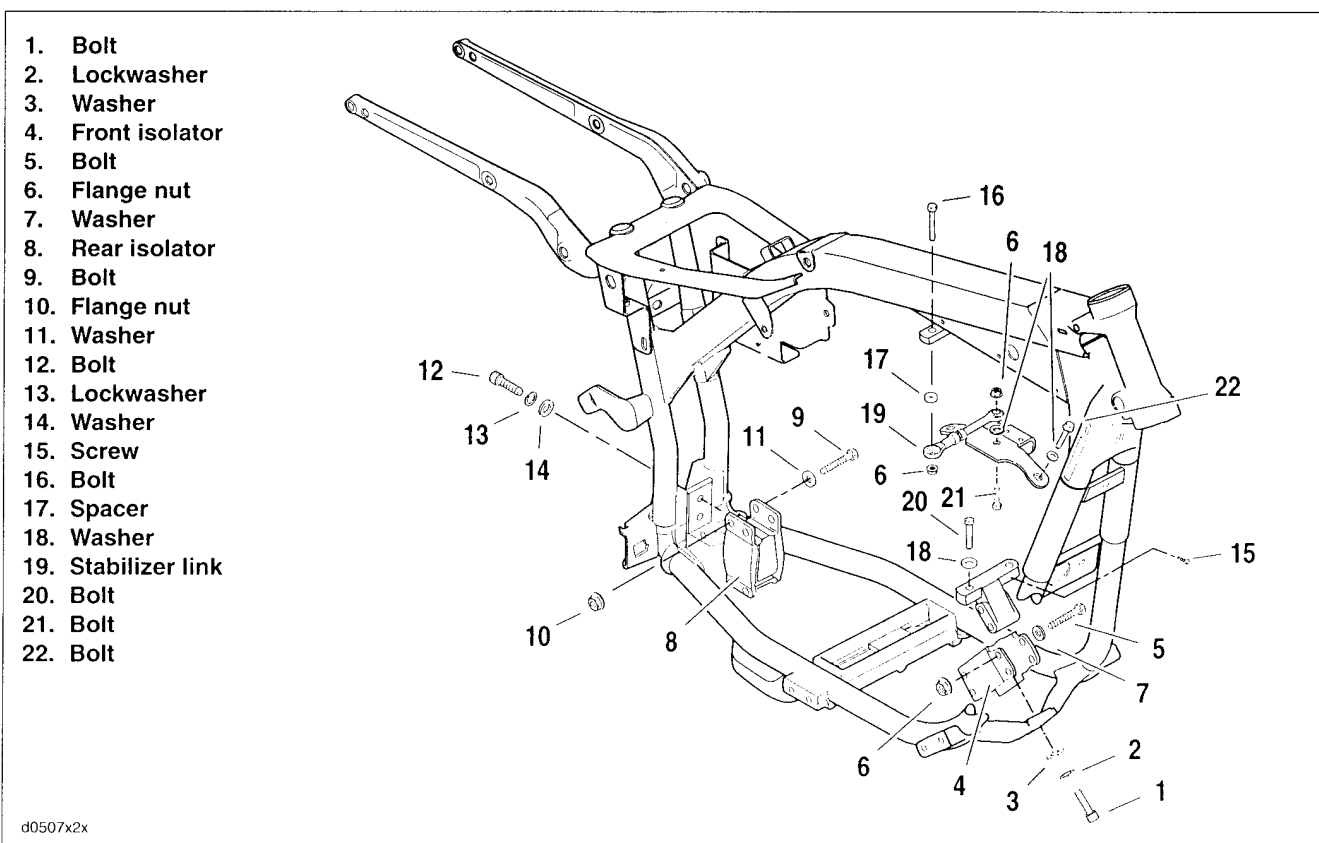

Figure 2-127. Engine Mounts
2. See Figure 2-127. Remove bolts (1) lockwashers (2) and washers (3) securing front isolator (4) to frame.
3. Remove bolts (5), flange nuts (6) and washers (7). Remove front isolator (4).
2. See Figure 2-127. Place front isolator (4) in position on frame and install bolts (1) lockwashers (2) and washers (3). Torque bolts to 21-27 ft-lbs (28-36 Nm).
3. Install bolts (5), flange nuts (6) and washers (7). Tighten flange nuts to 21-27 ft-lbs (28-36 Nm).